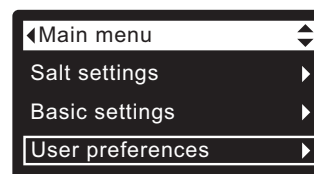

FIG. 54
1. From any of the rolling status screens, press the SELECT (O) button to display the **Main menu**.
2. Press the DOWN (▼) button to scroll through the menu options until **User preferences** is highlighted (See Figure 54).